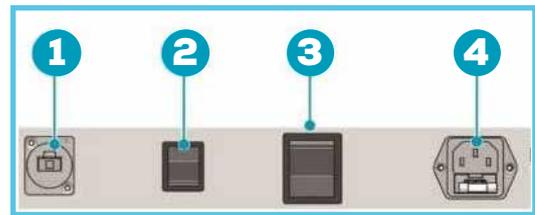

Figure 13
1. Before Hard Reset protocol, turn the unit Off with main power switch (Figure 13, pos.2).